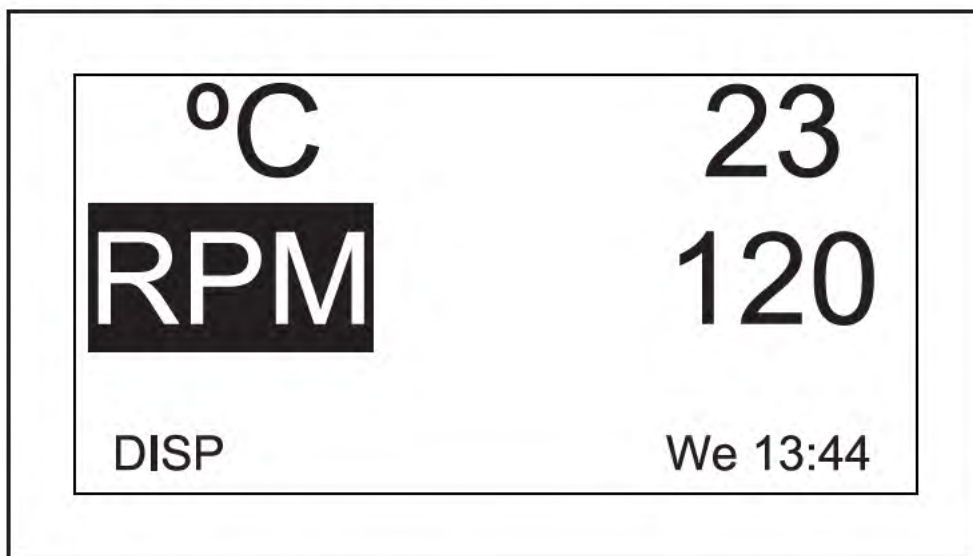

Fig. 9-1: Changing display parameter
1. Using the control knob, highlight the parameter that you wish to replace. For this example, we will replace *RPM* (see Fig. 9-1 on p. 50).